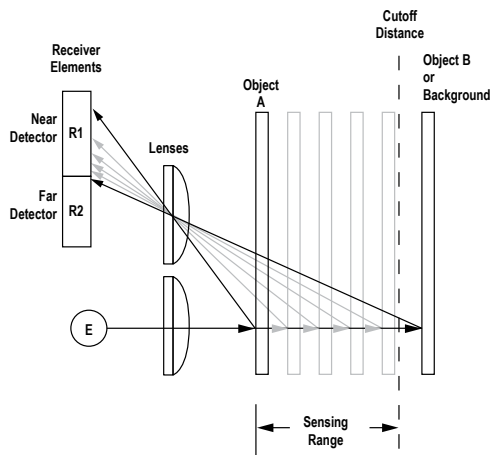

Figure 1. Adjustable field sensing concept
The A60AFV compares the reflections of its emitted light beam (E) from an object back to the sensor's two differently-aimed detectors R1 and R2 (see Figure 1 on page 2). If the near detector (R1) light signal is stronger than the far detector (R2) light signal (see object A, closer than the cutoff distance), the sensor responds to the object. If the far detector (R2) light signal is stronger than the near detector (R1) light signal (see object B, object beyond the cutoff distance), the sensor ignores the object.